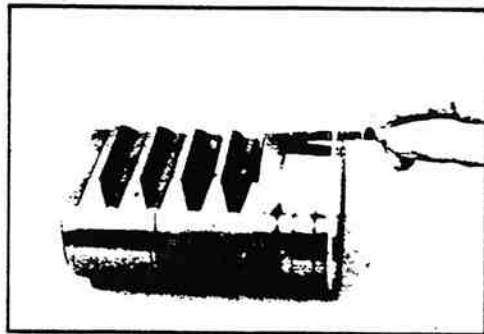

Figure 11-42. Seal Ring Removal.
39. Remove and discard the rack piston seal ring (17) (figure 11-42).